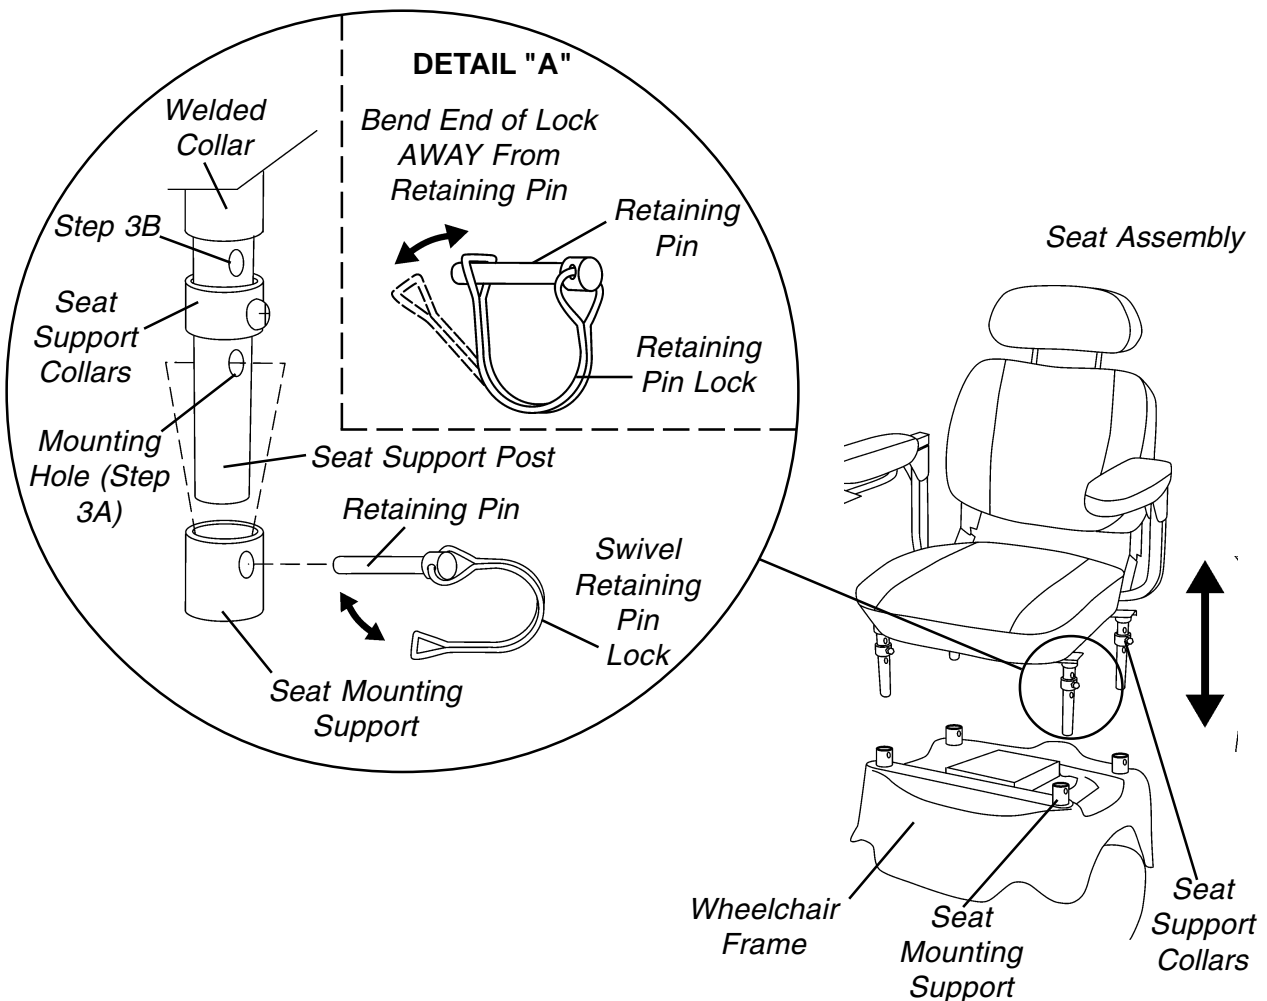

FIGURE 3 - REMOVING/INSTALLING THE SEAT ASSEMBLY - SEAT ASSEMBLIES WITH SEAT SUPPORT COLLARS
5. Repeat STEPS 2-4 for the two (2) remaining seat support posts.
**Seat Assemblies WITH Seat Support Collars (FIGURE 3)**
2. Release the four (4) retaining pin locks by performing the following steps:
3. Remove the four (4) retaining pins that secure the seat support posts to the seat mounting supports on the wheelchair frame.